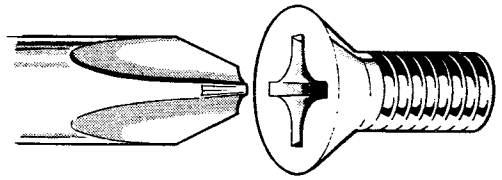

Fig. 4 Phillips screw system
4. **Phillips screwdrivers.** Phillips screws have a cross-shaped recess in the screw head and require a specially shaped screwdriver (Fig. 4). There is less tendency for a Phillips screwdriver to slip from the screw head and it can be used with power driven tools when fitted with a suitable torque clutch.